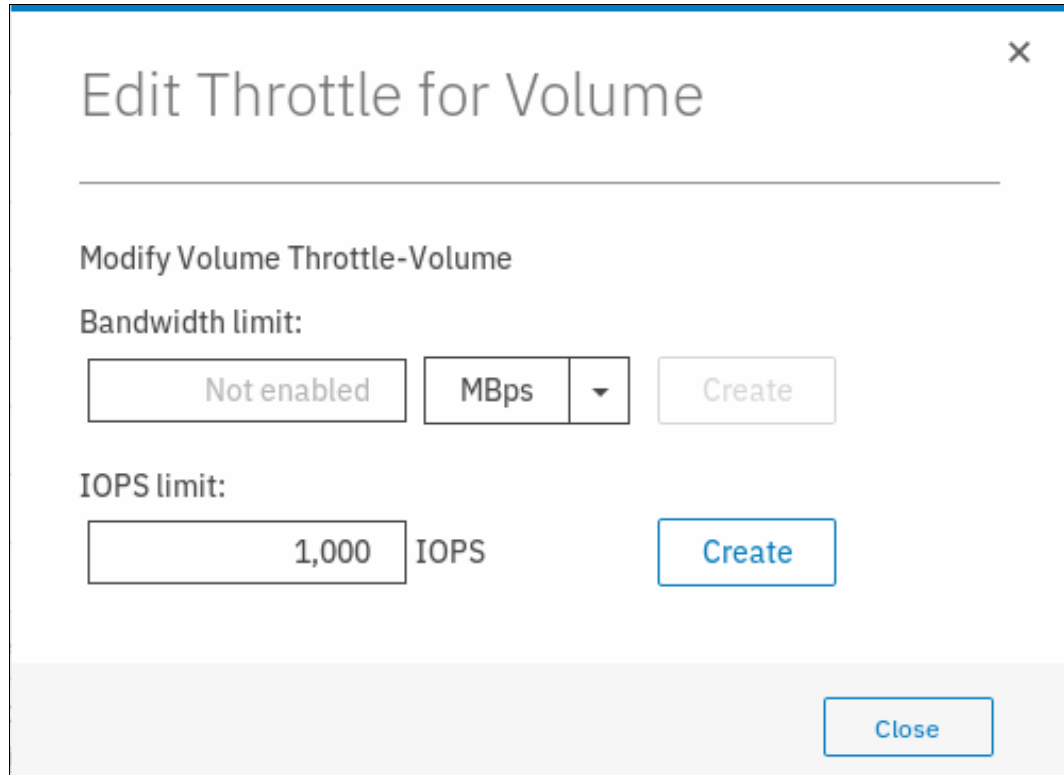

Figure 6-55 IOPS throttle on a volume
2. A window opens in which you can set the throttle in terms of IOPS or bandwidth (MBps) or both. In our example, we set the throttle on IOPS, as shown in Figure 6-55.